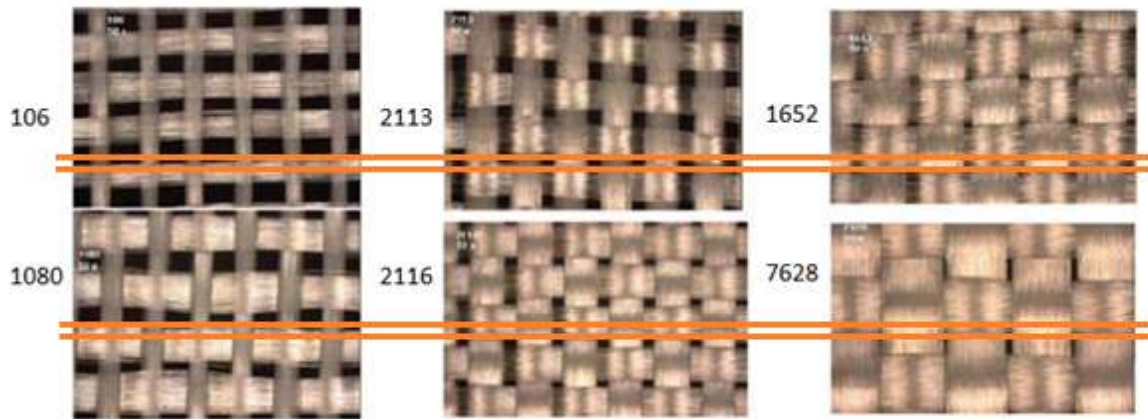

Figure 2 – Different types of fiberglass weaves compared to a differential pair – source Altera
Close attention should also be paid to the skew associated with the fiber weave effect. For high-speed data rates of 5 Gbps and above, this skew significantly cuts into the available jitter unit interval (UI) budget and leads to a reduction in the observed eye width at the receiver. If the flexibility exists, specify a denser weave material (2113, 2116, 1652 or 7628) compared to a sparse weave (106 and 1080). Figure 2, compares the different types of fiberglass weaves to a 4/4 mil differential pair. Notice that one side of the pair can be routed over the fiberglass and the other over the gap (resin), depending on the placement. The different dielectric constants create skew. However, routing the differential signals diagonally across the weave can reduce this skew considerably.